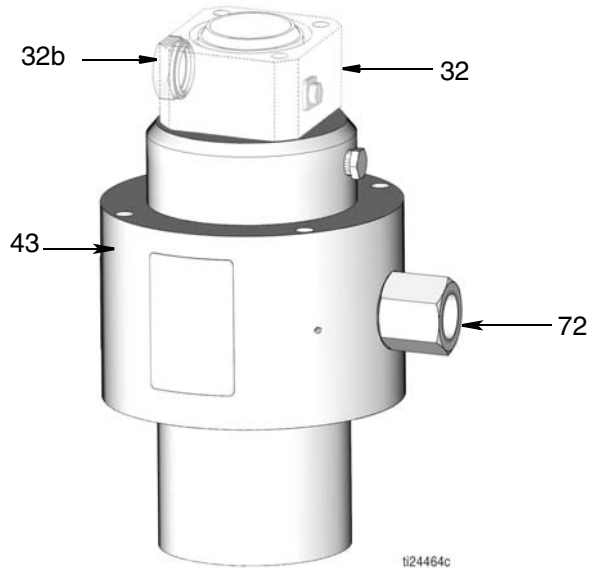

FIG. 25
NOTE: When attaching the motor housing (43) onto the bottom cylinder cap (32), be sure that the adapter (72) in the motor housing and the port (32b) in the bottom cylinder cap are facing opposite directions as shown in FIG. 25.